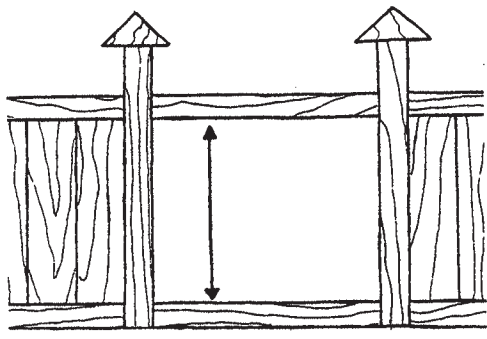
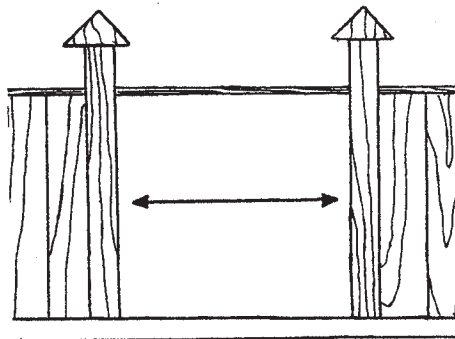
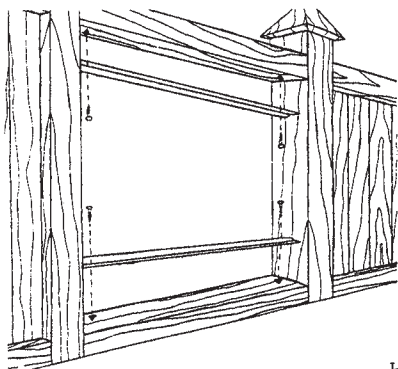
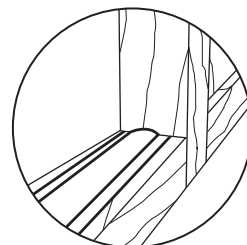

Figure 1
Figure 2
Figure 3
Figure 3A
STEP 1 Determine if you wish to install your FLEX·fence® as either vertical (*Figure 1*) or horizontal (*Figure 2*) panels.
STEP 2 Fit rails onto the top and bottom crossbar (*Figure 1*) or fence post (*Figure 2*). Using a marking instrument denote rail placement ensuring that they are well centered* (*Figure 3A*) and the pre-punched swivel holes are directly opposite to one another. (*Figure 3*) * If you are attaching the rails onto 2' x 6" frames the rails should not be centered but offset on one side to allow access to fasten the operating bar (See *STEP 6*).
NOTE: You may wish to use our location holes for position purposes during the installation. (Figure 3 & 3B).